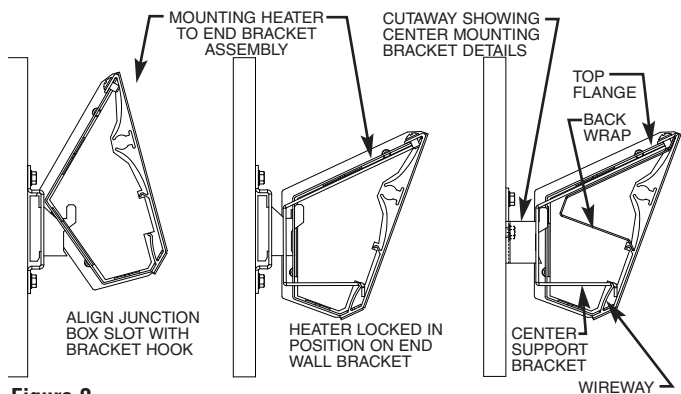

Figure 2
4. To mount cove heater, attach center support bracket to the center wall bracket by tilting the heater back and allowing the upper slot to fall onto the bracket hook per Figure 2. Attach the junction boxes to the end wall brackets in a similar manner. Bring the cove heater forward to lock into place.
4. To mount cove heater, attach center support brackets to the center wall brackets by tilting the heater back and allowing the upper slot to fall onto the bracket hook per Figure 2. Attach the junction boxes to the end wall brackets in a similar manner. Bring the cove heater forward to lock into place.